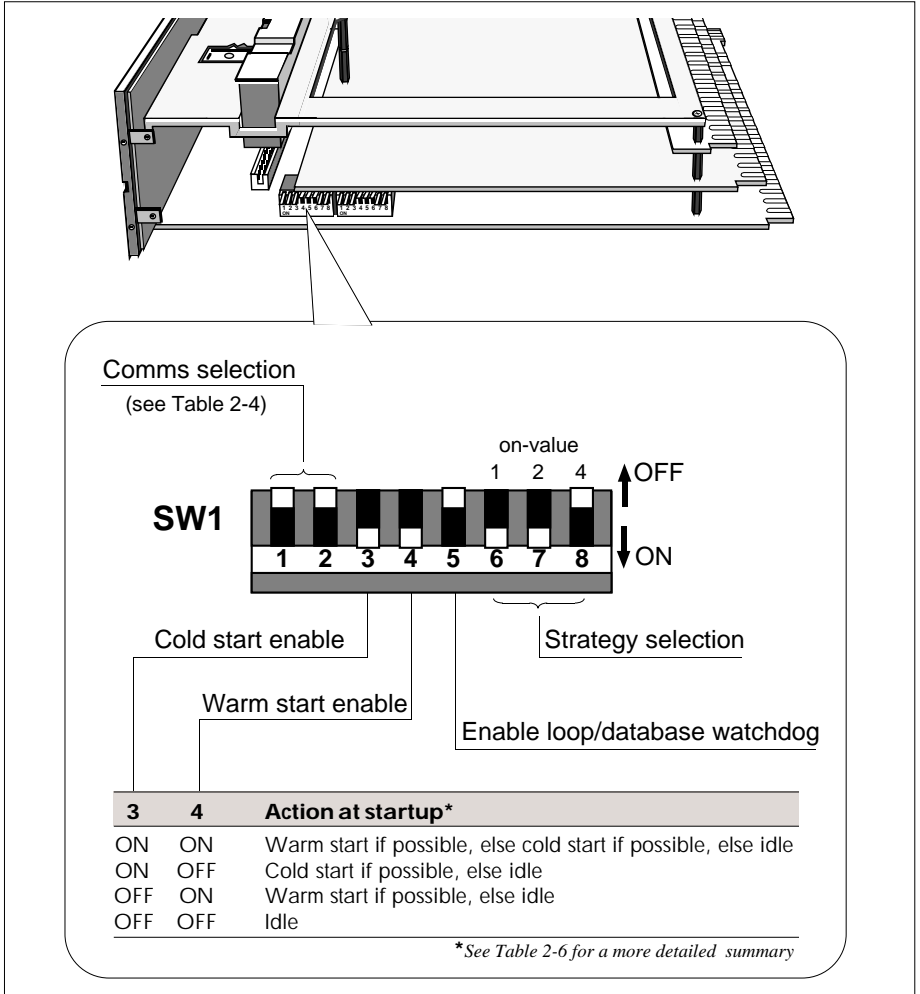

Figure 2-12 SW1 location and functions
Figure 2-12 shows the location and functions of the eight switches in DIL switchbank 1.
- Switches 6, 7, and 8 select the number of a preconfigured 'standard' strategy to be loaded to RAM and if possible run in the T640. The strategy selected is the sum of the 'values' of the three switches (OFF = 0, ON = 'value' as shown in Figure 2-12). E.g. strategy #3 has been selected in the figure. Setting these three switches all OFF prevents any standard strategy being loaded. Running standard strategies is explained in Chapter 5, *Standard strategies*.
The location of SW1 was shown in Figure 2-12, and the functions of switches 3 and 4 briefly summarised. Table 2-6 below provides more detail on the effect of the four possible switch setting combinations.